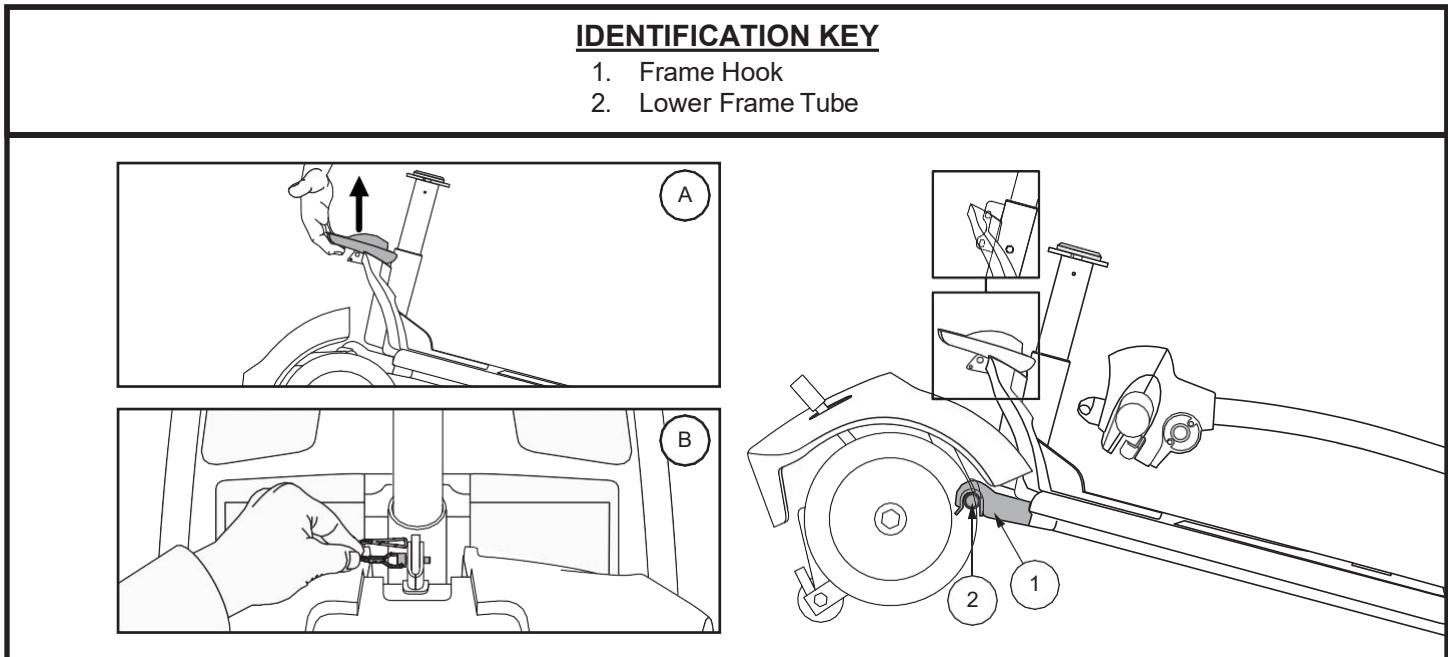

Figure 33. Frame Release Lever (Style A) and Frame Release Lock-up Pin (Style B)
3. Slowly separate the two sections of the Travel Scooter. See **figure 33**.
NOTE: Before attempting assembly, tilt the rear half of the Travel Scooter slightly back on the anti-tip wheels as shown in figure 33.
1. Use the frame release lever to lift the front section as you align the frame hooks of the front section with the lower frame tube of the rear section. See **figure 33**.